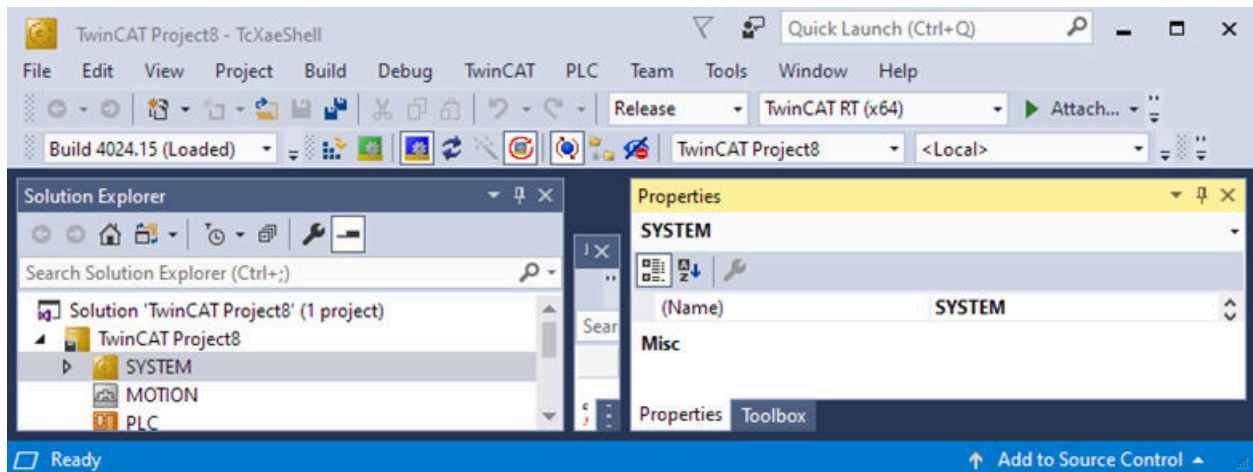

Fig. 13.2: Project running configuration
3. The *Restart TwinCAT (Config Mode)*, *Toggle Free Run State*, and *Show Online Data* buttons should all be pressed, as shown in Fig. 13.2.